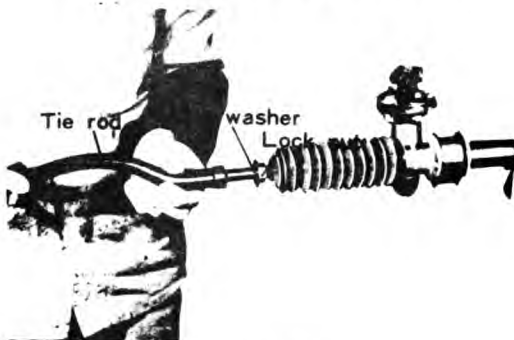

Fig. 6-26
- (a) Fix the gear box as shown in Fig. 6-26, straighten the bent lock washer, unthread the lock nut, and remove the tie-rod.